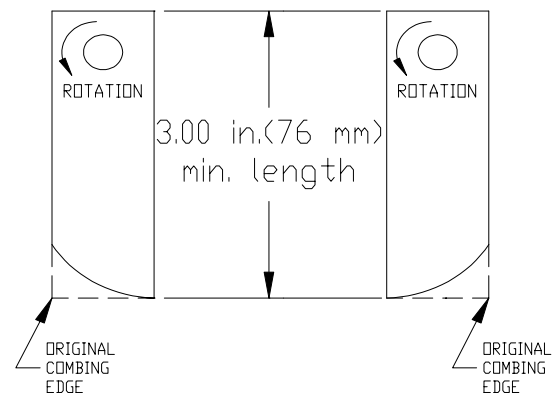

Fig. 1
4. Inspect blades for wear, and immediately replace any bent or cracked blades. Measure the overall length of the blade. (See fig. 1)